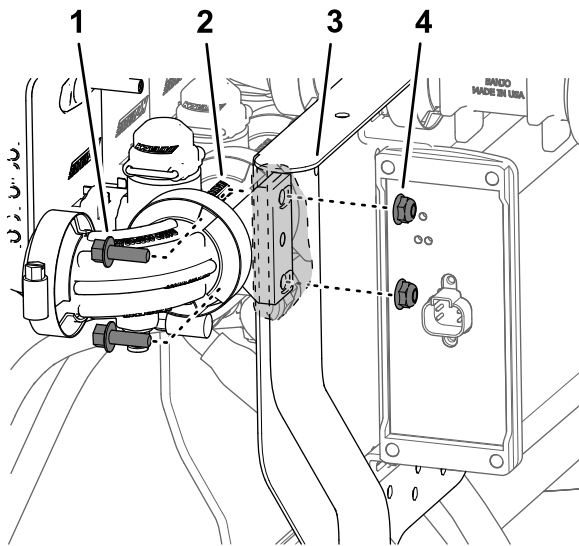

Figure 66
- Assemble nozzle-valve 10 to the valve mount (Figure 66) with the 2 flange-head bolts (1/4 x 3/4 inch) and 2 flange locknuts (1/4 inch) that you removed in step 2 of Disassembling the Boom-Section Valves from the Manifold Mount \(page 25\).